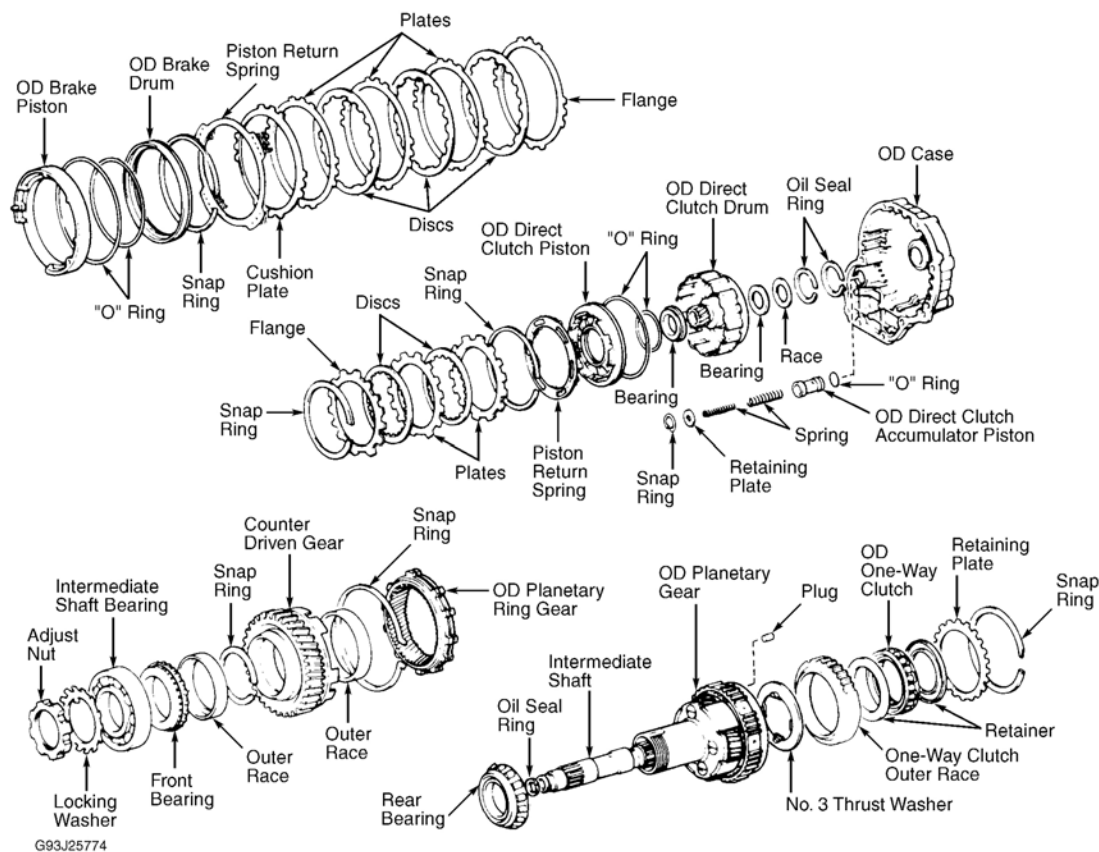

Fig. 50: Exploded View Of Overdrive Assembly
1. While pushing return spring, remove snap ring with a screwdriver. Remove piston return spring. Remove plates, discs and flange. Note number and location of components. See **Fig. 50** .
1. Remove overdrive direct clutch from case. See **Fig. 50** . Remove bearing and race from clutch drum and case. Using a screwdriver, remove snap ring. Remove flanges, discs and plates. Note number and location of components. Compress piston return spring and remove snap ring. Remove piston return spring.
1. Coat NEW "O" ring with ATF. Install "O" ring on piston. Press piston in drum with cup side up. DO NOT damage "O" ring. Install return spring and set snap ring in place. See **Fig. 50** .
4. Remove No. 3 planetary gear thrust washer. See **Fig. 50** . Using a magnet, carefully remove 4 plugs from planetary gear. Pry back lock washer with screwdriver. Hold shaft in soft-jawed vise. Loosen adjusting nut. Remove nut and washer.